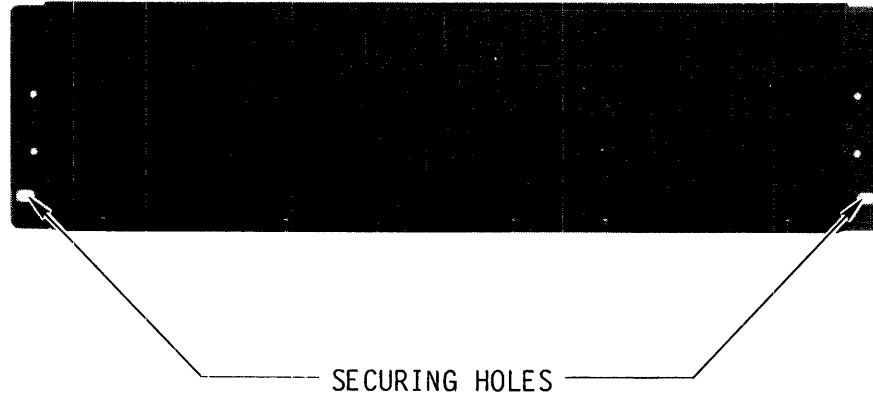

Figure 2-4. Front View of Chassis with Front Panel Removed to Show Securing Holes
- 5) Secure the chassis in the rack by bolting the front flange to the front rails of the rack as shown in Figure 2-4.